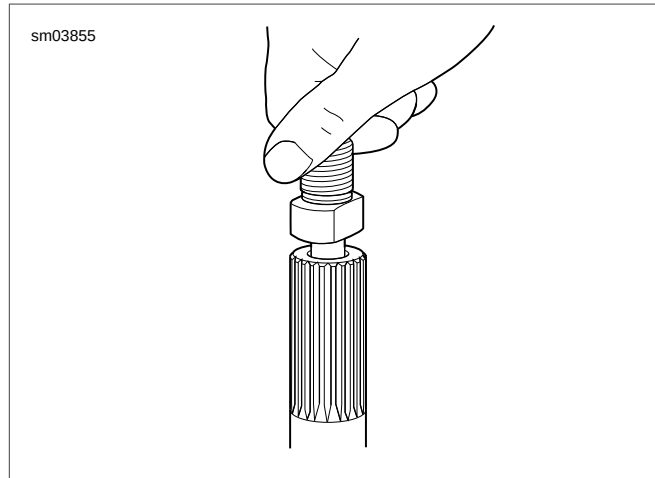

Figure 3-142. Thread Pilot Adapter into Sprocket Shaft
- a. See Figure 3-142. Thread pilot adapter into sprocket shaft.